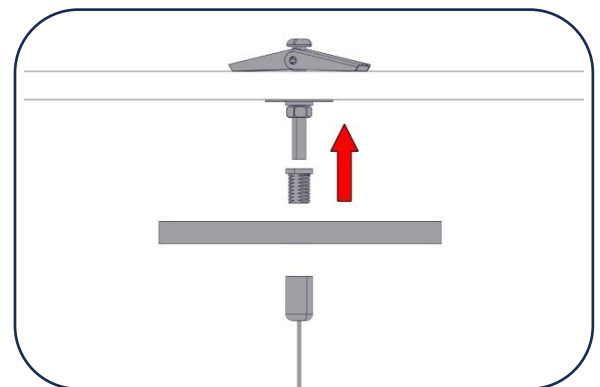

Figure 11
24. Install the Toggle Bolt Assemblies to the ceiling with the remaining Threaded Inserts removed in step 19. [Figure 11]
- Secure a Canopy B to each pre-installed Threaded Insert with the Threaded Base of the Cable Support for each additional mounting point. [Figure 11]